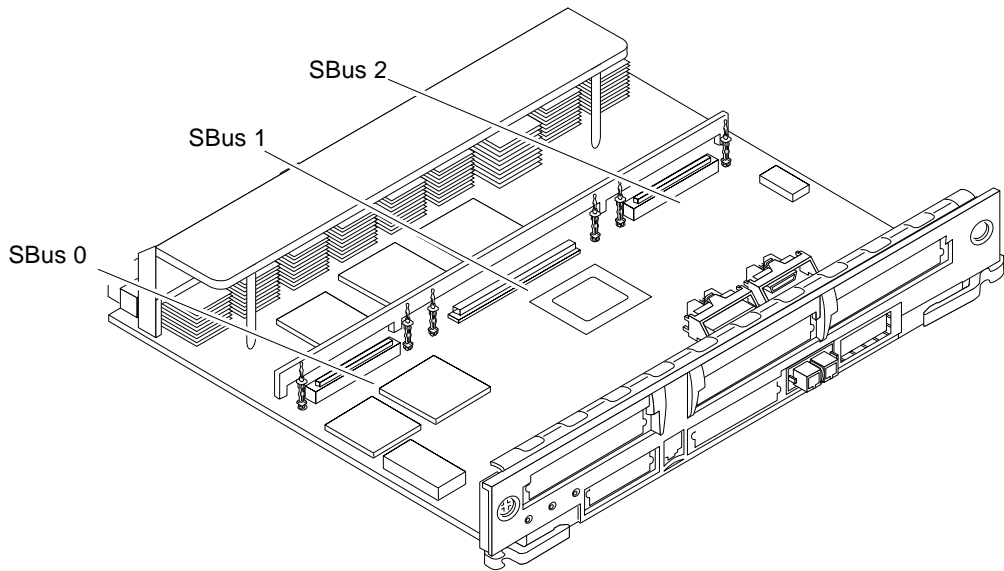

FIGURE G-7 SBus I/O+ Board SBus Connectors
- The SBus+ I/O board has three SBus connectors, SBus 0, 1, and 2 (FIGURE G-7).